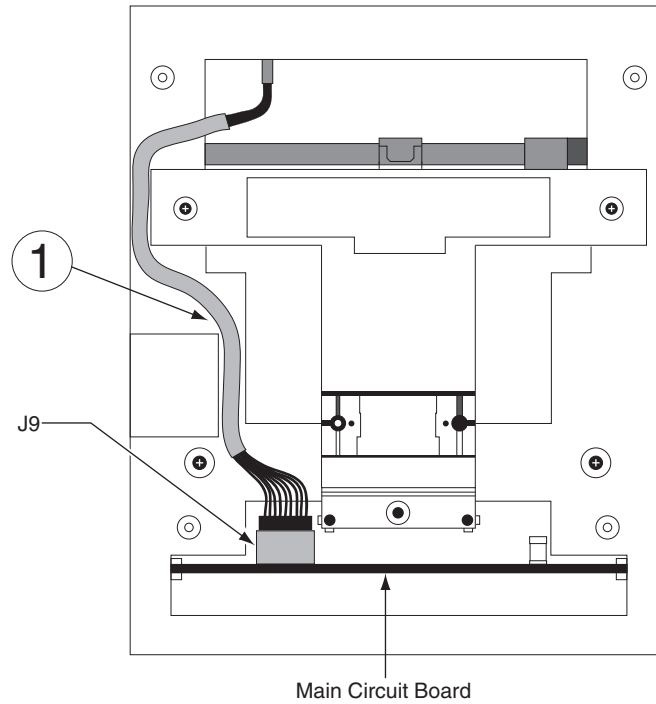
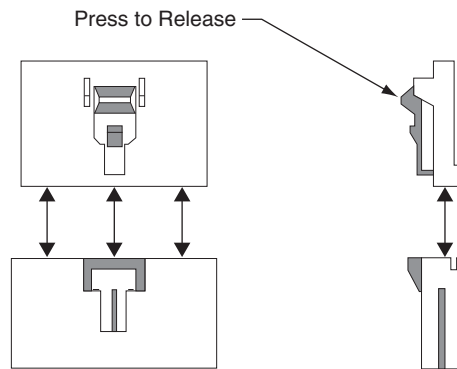

Figure 3
Figure 4
7. Locate the cable that runs from the top panel circuit board to the main circuit board. Disconnect this cable from J9 on the main circuit board. See "1" on figure 3. To remove the J9 connector on the main circuit board (lower board), depress the retaining clip on the connector and pull upwards. See figure 4 below.